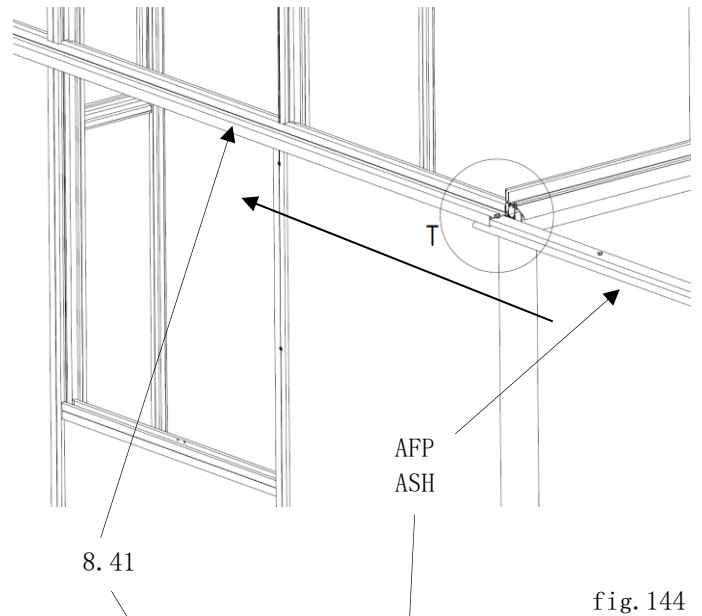

fig. 144
- insert PE spacer (**item ASH**) with profile of the side window (**item AFP**) into the door track groove (**item 8.41**). (*fig. 144*)